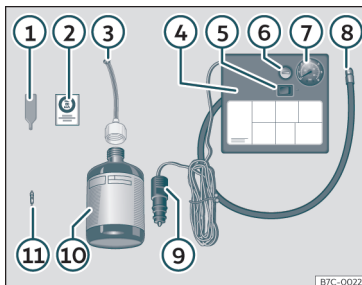

Fig. 34 Standard representation: anti-puncture kit contents.
The anti-puncture kit is located underneath the floor covering in the luggage compartment. It includes the following components »» Fig. 34:
- Unscrew the tyre valve cap and insert. Use the »» Fig. 34 ① tool to remove the insert. Place it on a clean surface.
- Shake the tyre sealant bottle vigorously »» Fig. 34 ⑩.
- Screw the inflator tube »» Fig. 34 ③ into the sealant bottle. The bottle's seal will break automatically.
- Remove the lid from the filling tube »» Fig. 34 ③ and screw the open end of the tube into the tyre valve.
- Place the insert back into the tyre valve using the tool »» Fig. 34 ①.
- Screw the compressor tyre inflator tube »» Fig. 34 ⑧ into the tyre valve.
- Check that the air bleed screw is closed »» Fig. 34 ⑥.
- Insert the connector »» Fig. 34 ⑨ into the vehicle's 12-volt socket »» page 145.
- Turn the air compressor on with the ON/OFF switch »» Fig. 34 ⑤.
- Attach the sticker»» **Fig. 34** ② to the instrument cluster, within the driver's visual field.
Screw the inflator tube»» **Fig. 34** ⑤ again and check the pressure on the gauge ⑥.